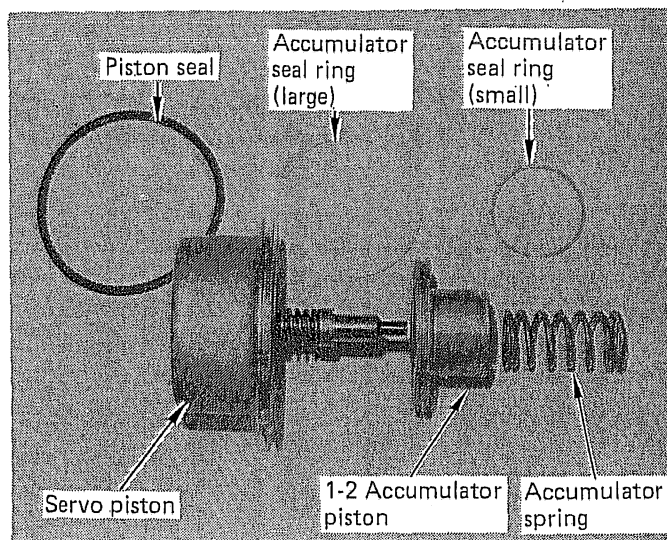

FIGURE 50
**STEP 22.** Set the transmission on the bench valve body surface up. Install new metal seal rings on the 1-2 accumulator piston if it originally had metal rings. (See Fig. 50) Do not remove teflon seals. Install new seal onto rear servo piston. Lubricate accumulator piston and install into rear servo piston. Install accumulator spring into piston.